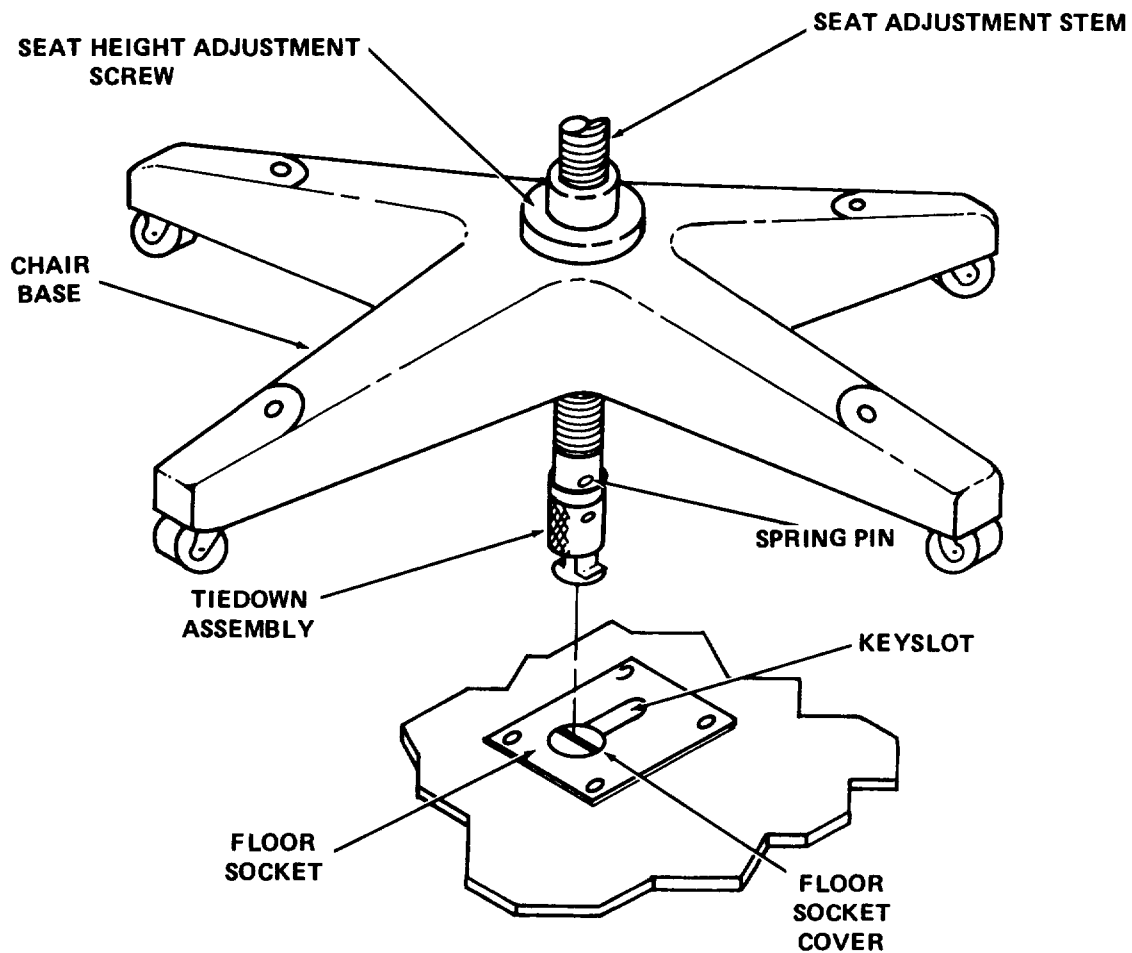

Figure 2-1. Chair Tiedown
a. Chairs. Refer to figure 2-1. Each chair is fitted with a spring-loaded tiedown assembly at the base of the seat adjustment. This assembly mates with a keyslot-shaped socket in the shelter floor. The chair's height adjustment screw has been turned to raise the seat stem, thereby tightening the chair to a stationary position. Release each chair as follows:
(1) Loosen seat height adjustment screw until chair swivels freely.
(2) Press floor socket cover and pull tiedown assembly out of keyslot until it clears floor and springs up into socket well.
(3) Release floor socket cover and pull tiedown assembly out of keyslot until it clears floor.
a. Chair Tiedown Installation (figure 2-1).
(1) Turn seat height adjusting screw on chair to lower tiedown assembly to approximately 1/8-inch above floor.
(2) Position chair over floor socket and align tiedown assembly with socket well cover and key slot. Grasp knurled sleeve on tiedown assembly and push assembly into socket well. Slide into key slot until socket cover well snaps back up, locking pin in socket.
(3) Tighten chair against floor by turning seat height adjustment screw to raise seat.
a. Apply a light film of oil (Item 4, Appendix F) to the chair seat adjustment screw and the chair tiedown pin sliding collar (figure 2-1).